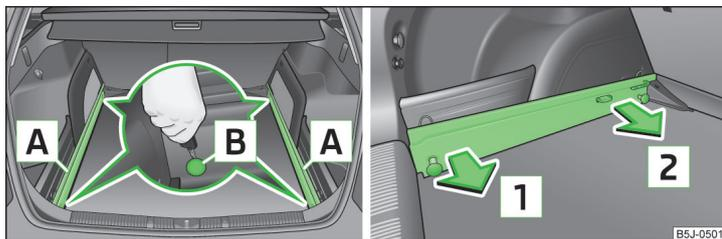

Fig. 69 Slacken check points/remove carrier rails
- › Undo the securing points **B** » Fig. 69 on the carrier rails using the vehicle key or a flat screwdriver.
- › Press the two securing points **B** » Fig. 69 on each carrier rail to the stop.